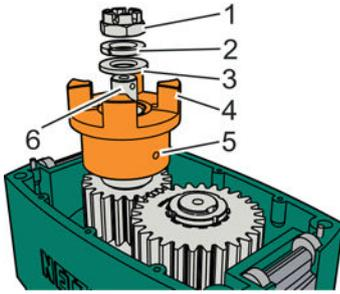

Fig. 94: Releasing the coupling half
- 5. ➔ Unscrew the hexagon castle nut (Fig. 94/1) from the drive shaft (Fig. 94/6) and place to the side with the retaining ring (Fig. 94/2) and the washer (Fig. 94/3).
- 6. ➔ Release the hexagon socket set screw (Fig. 94/5) and pull the coupling half (Fig. 94/4) off the drive shaft (Fig. 94/6) using a removal tool, if necessary.